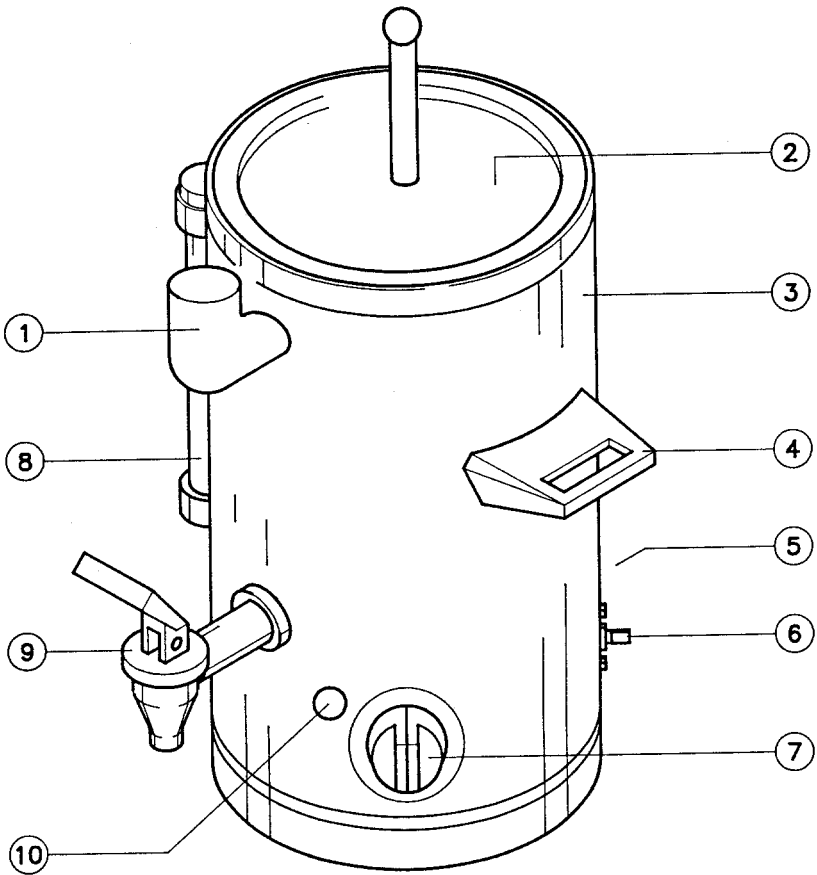

Fig. 1
Fig. 1 shows the appliance with its most important parts:
7. Switch on the appliance and set the thermostat to the desired temperature by turning the knob to the correct setting. The pilot light 8 (fig. 1) will go on.